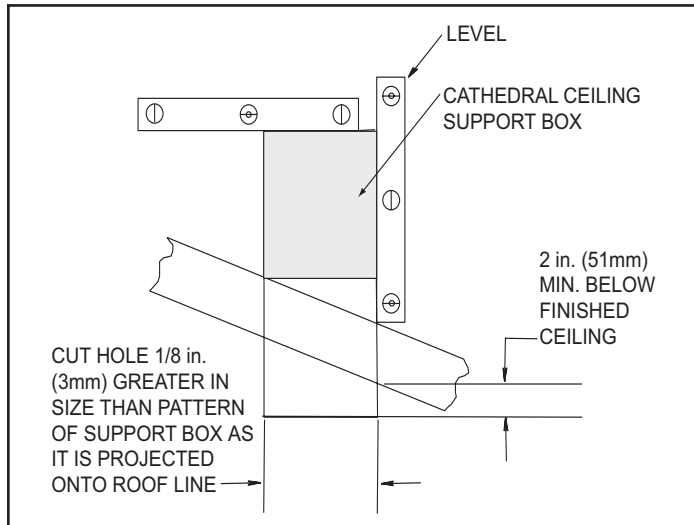

Figure 5.17
**Step 3** - Lower the support box through the hole in the roof until the bottom of the support box protrudes at least 2 in. (51mm) below the ceiling (Figure 5.17). Align the support box both vertically and horizontally with a level. Temporarily tack the support box in place through the inside walls and into the roof sheathing.